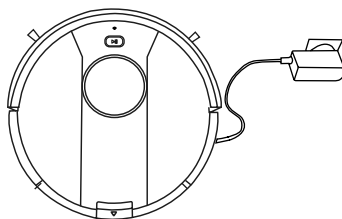

Figure 2
- Using the power adapter (Figure 2).